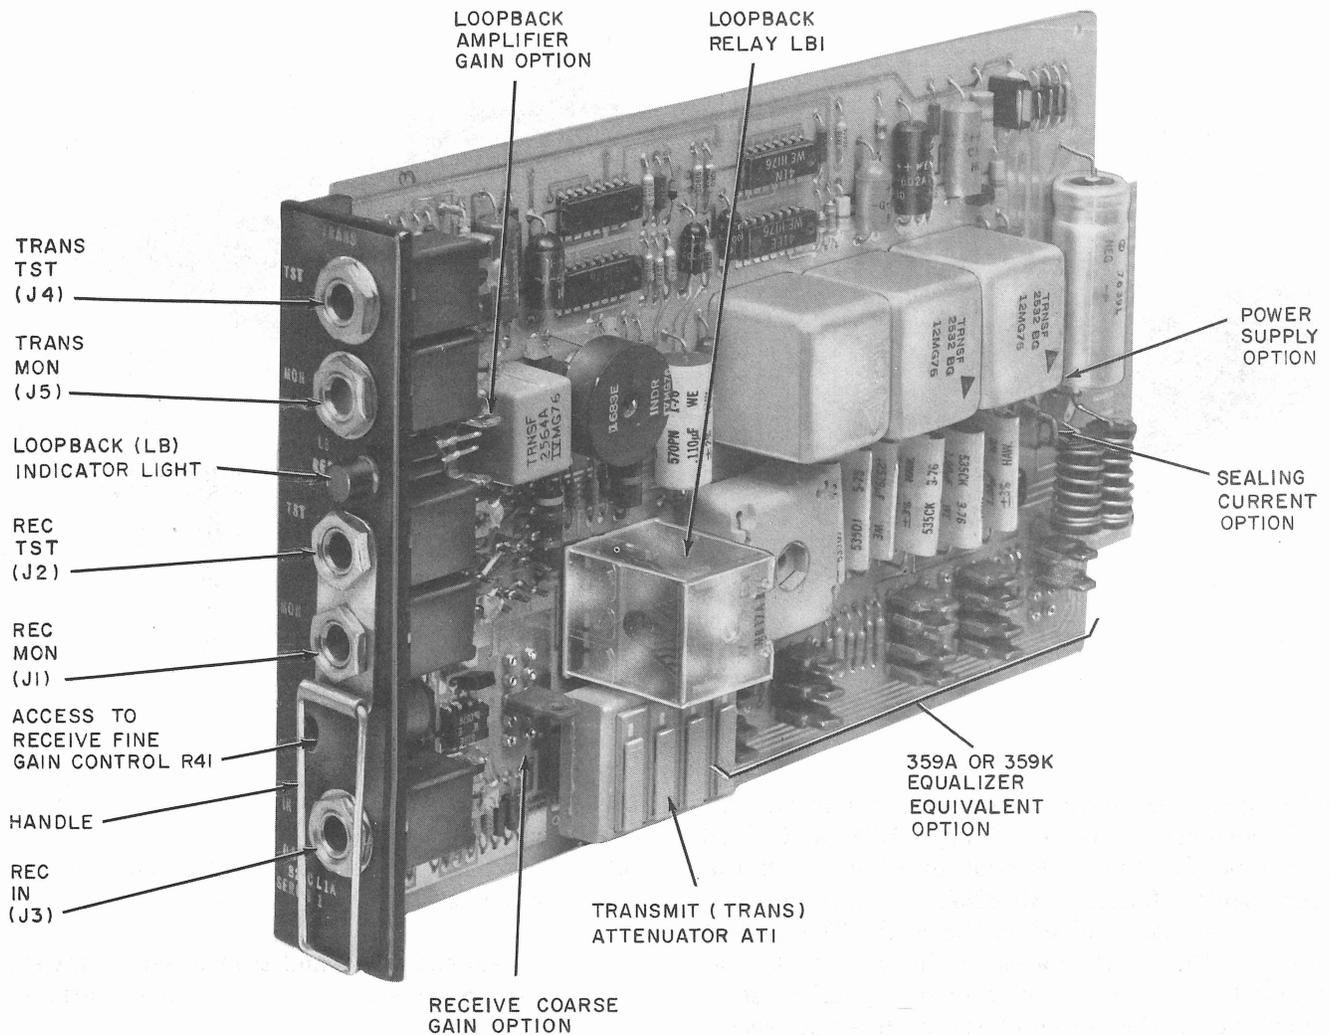

Fig. 5—Data Auxiliary Set 829-Type L1A
**2.10** Each DAS 829-type L1A (Fig. 5) terminates the SCU end of a primary link and consists of component parts mounted on a plug-in PWB. The four jacks (TRANS TST, TRANS MON, REC TST, REC MON) mounted in the faceplate of the